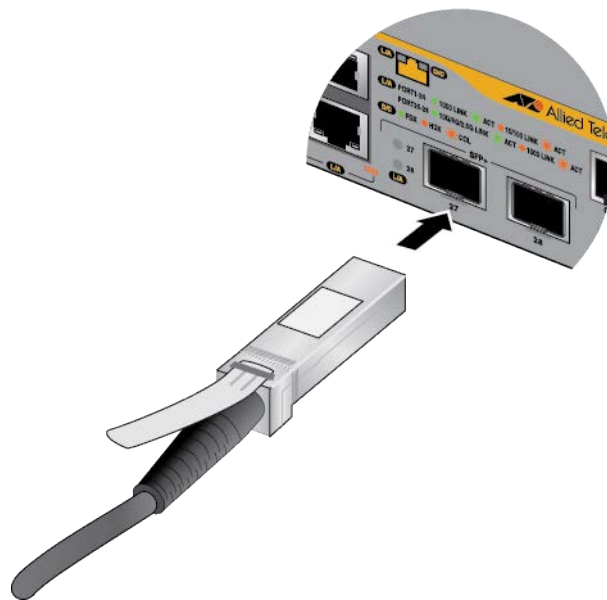

Figure 79. Installing an AT-SP10TW Cable
3. Position the transceiver with the Allied Telesis label facing up. Refer to Figure 79.